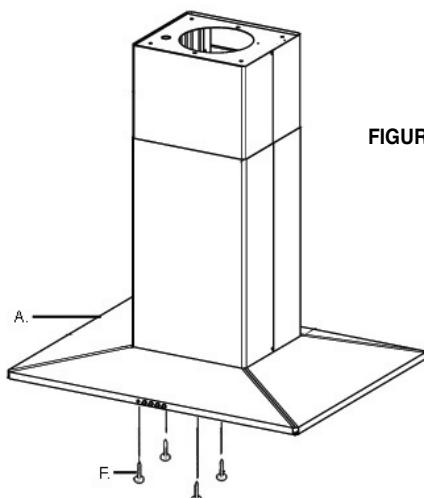

FIGURE 14
4. From below, attach the CANOPY SECTION (**A** in **FIGURE 14**) to the assembled chimney support using the four bolts provided (**F** in **FIGURE 14**).